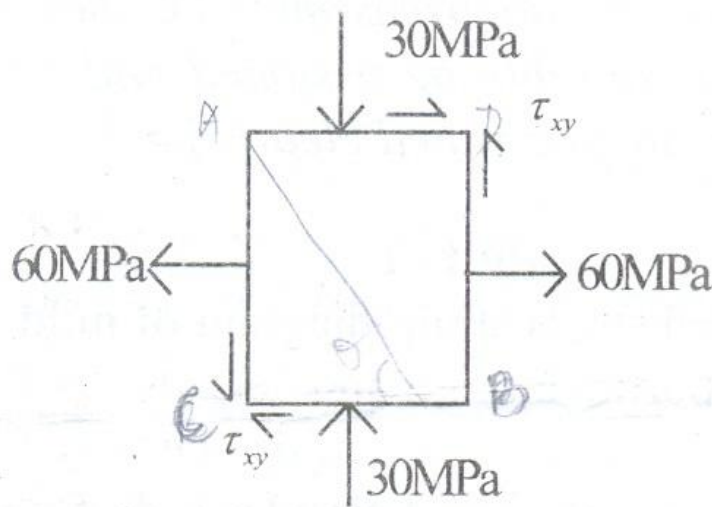

Fig.3
- b) At a certain point within a strained material, the two normal stresses acting on two mutually perpendicular planes are 60MPa (tensile) and 30 MPa (compressive). Find the shear stress on the planes (τ_{xy}) if maximum principal stress is limited to 100 MPa (Fig.3) (10)